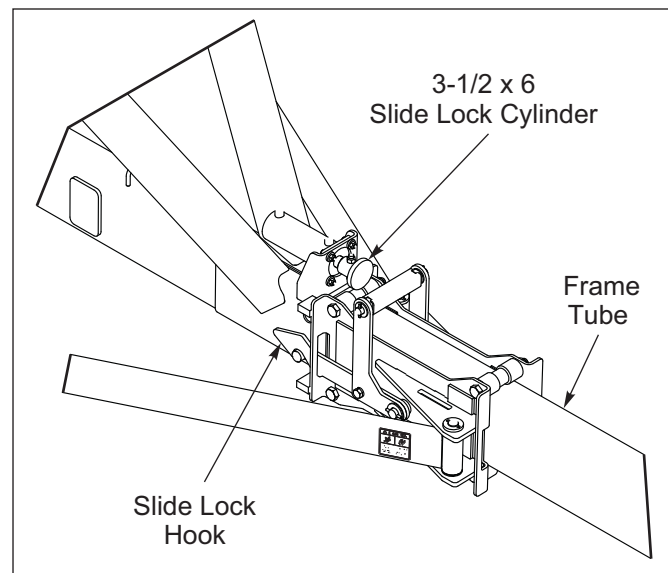

Figure 3-4: Wing Slide Lock
3. Activate the Wing Lock Circuit (Auxiliary) retracting the 3-1/2 x 6 Slide Lock Cylinder and extending the two 2 x 3 Contour Lock Cylinders on each wing. Slide Lock Hooks should be engaged on each side of the Frame Tube and each wing will now move fore-aft and laterally. **See Figures 3-4 and 3-5.**
2. Activate the Wing Lock Circuit (Auxiliary) extending the 3-1/2 x 6 Slide Lock Cylinder completely and retracting the two 2 x 3 cylinders on each wing. Seeder wings should now be locked to prevent fore-aft and lateral movement. **See Figures 3-4 and 3-6.**